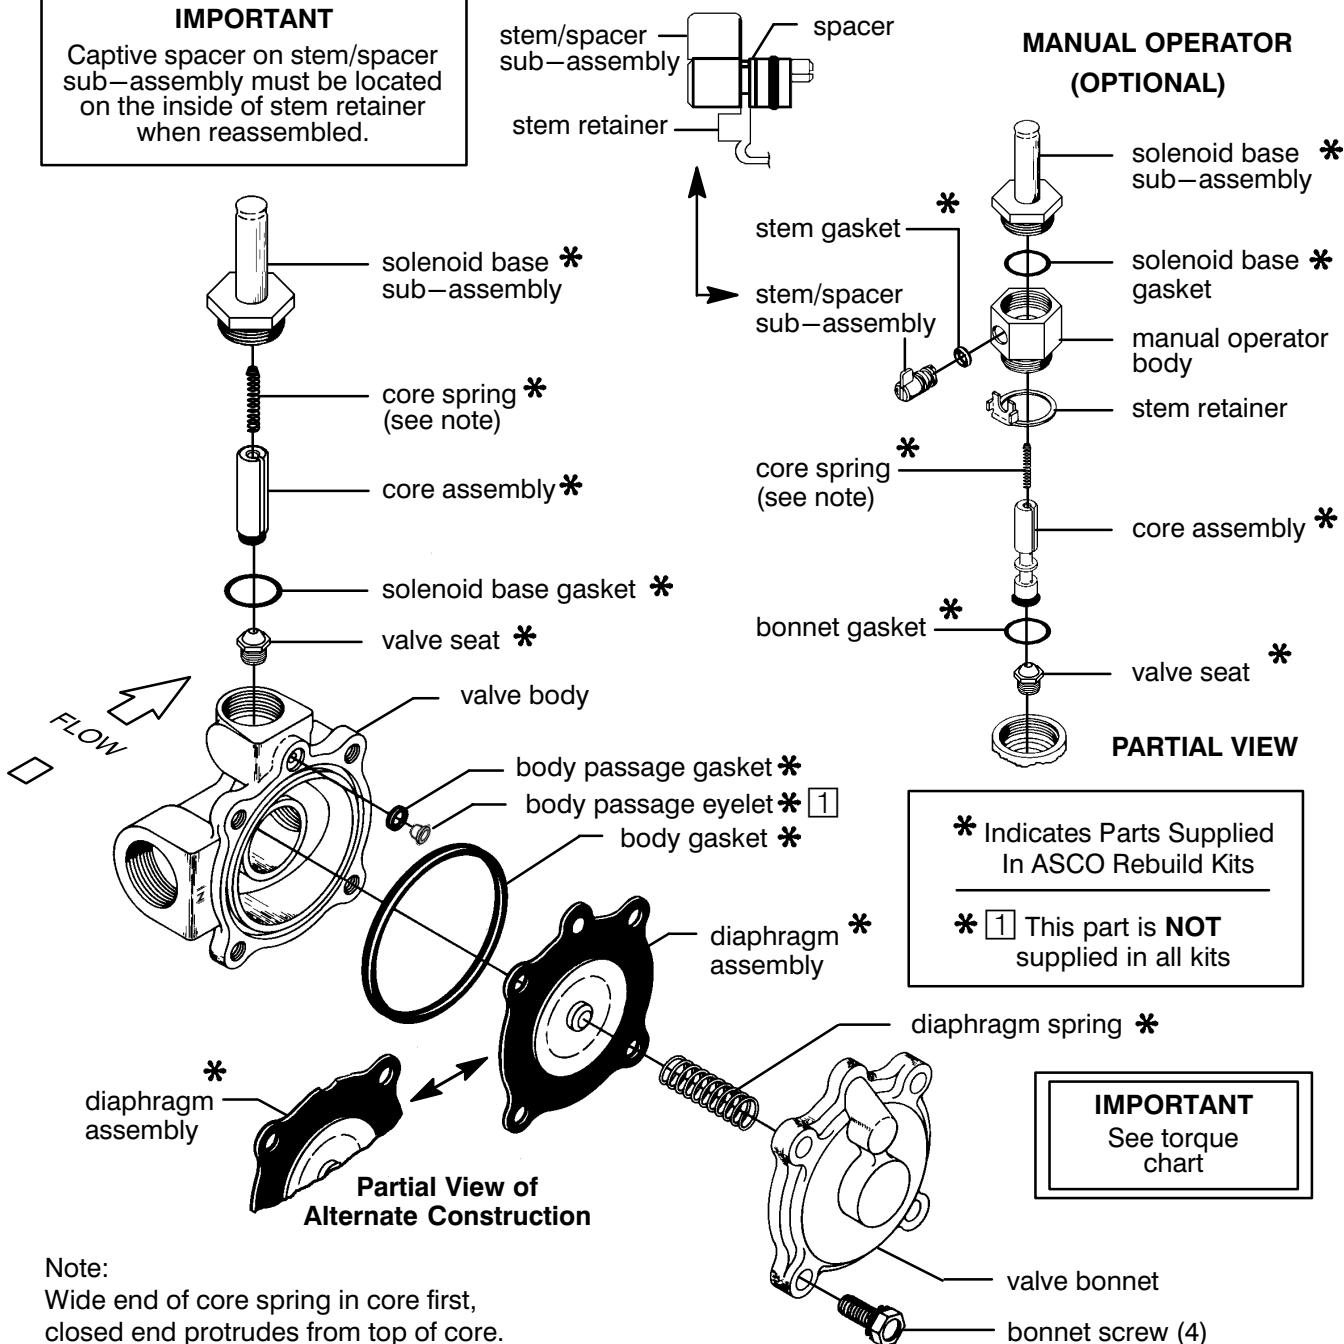
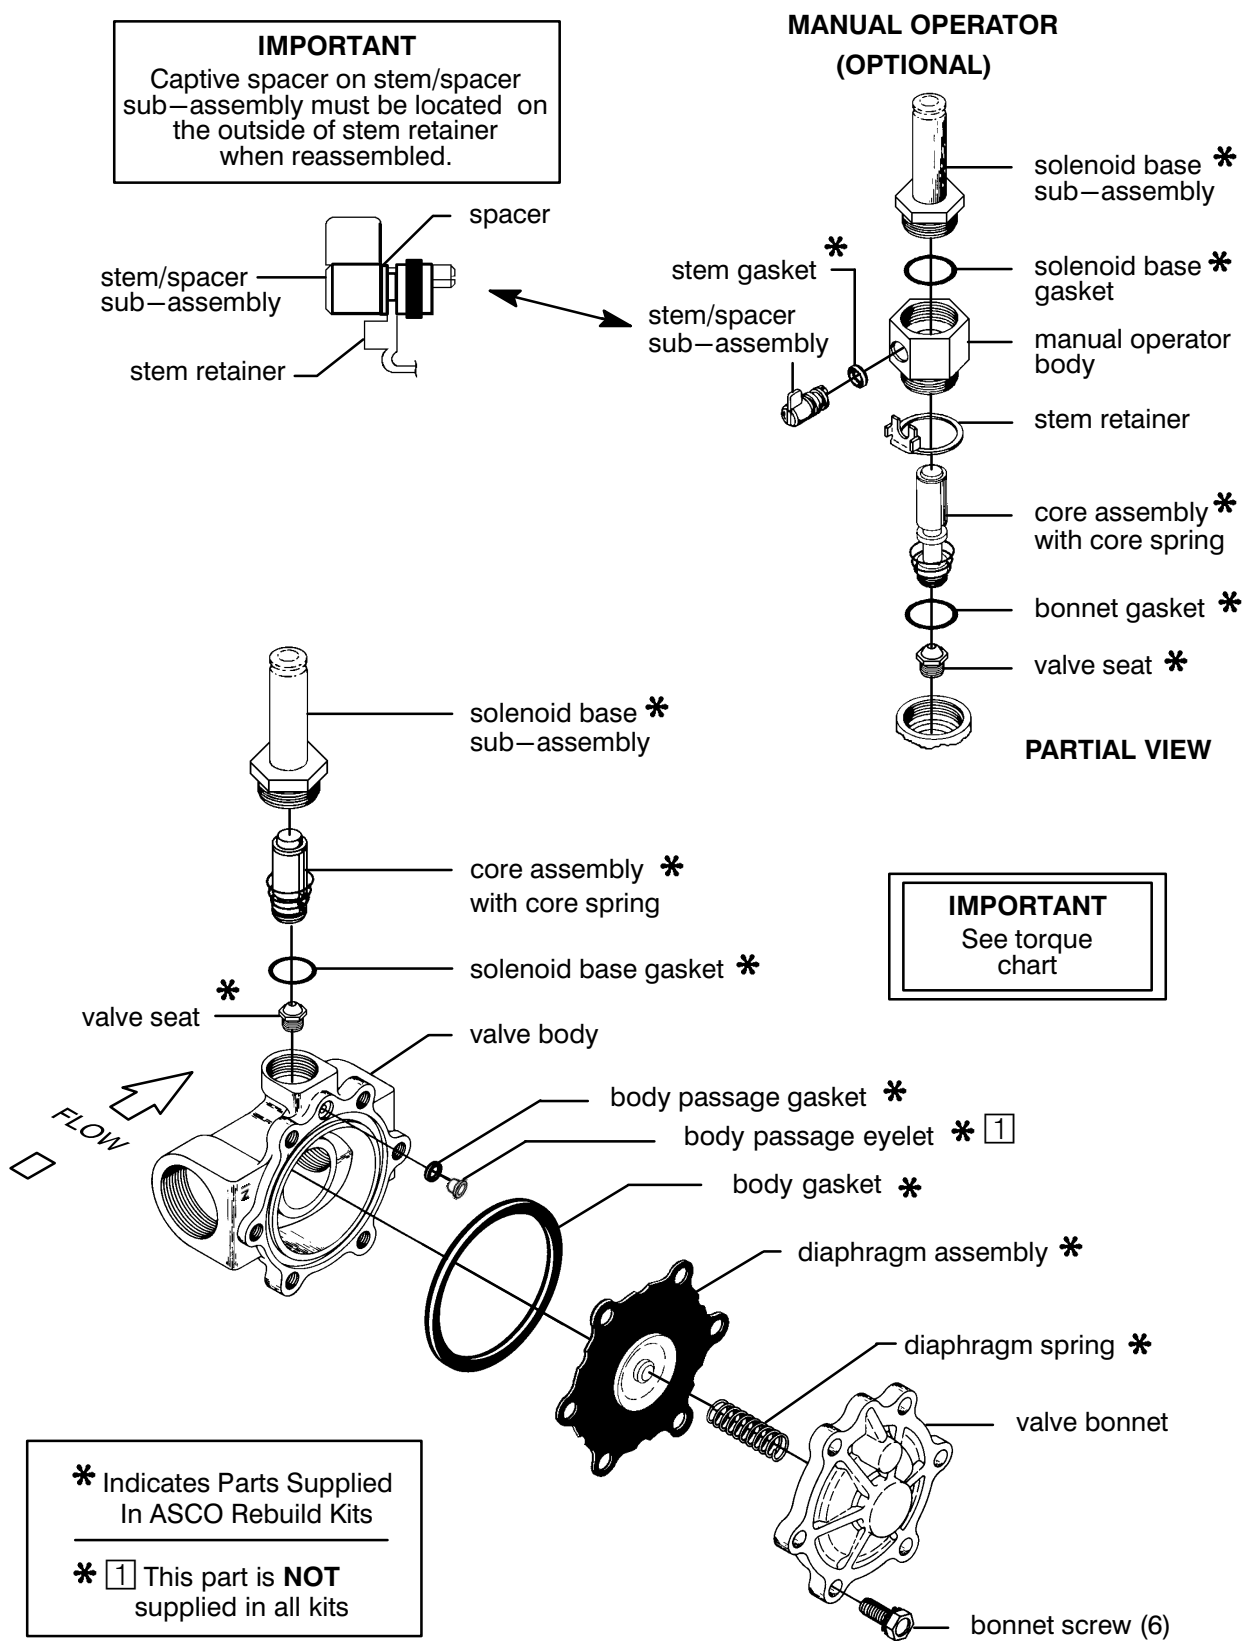

Figure 1. Series 8210 valve without solenoid, AC construction with 1" or 1 1/4" NPT valve body shown.
Figure 2. Series 8210 valve without solenoid, DC construction with 1 1/2" NPT valve body shown.
2. For AC construction (Figure 1), install core spring in core assembly. Wide end of core spring in core first, closed end protrudes from top of core.
**IMPORTANT:** The spacer on the stem/spacer sub-assembly *must* be inside of the stem retainer for AC construction (Figure 1) and outside of the stem retainer for DC construction (Figure 2).